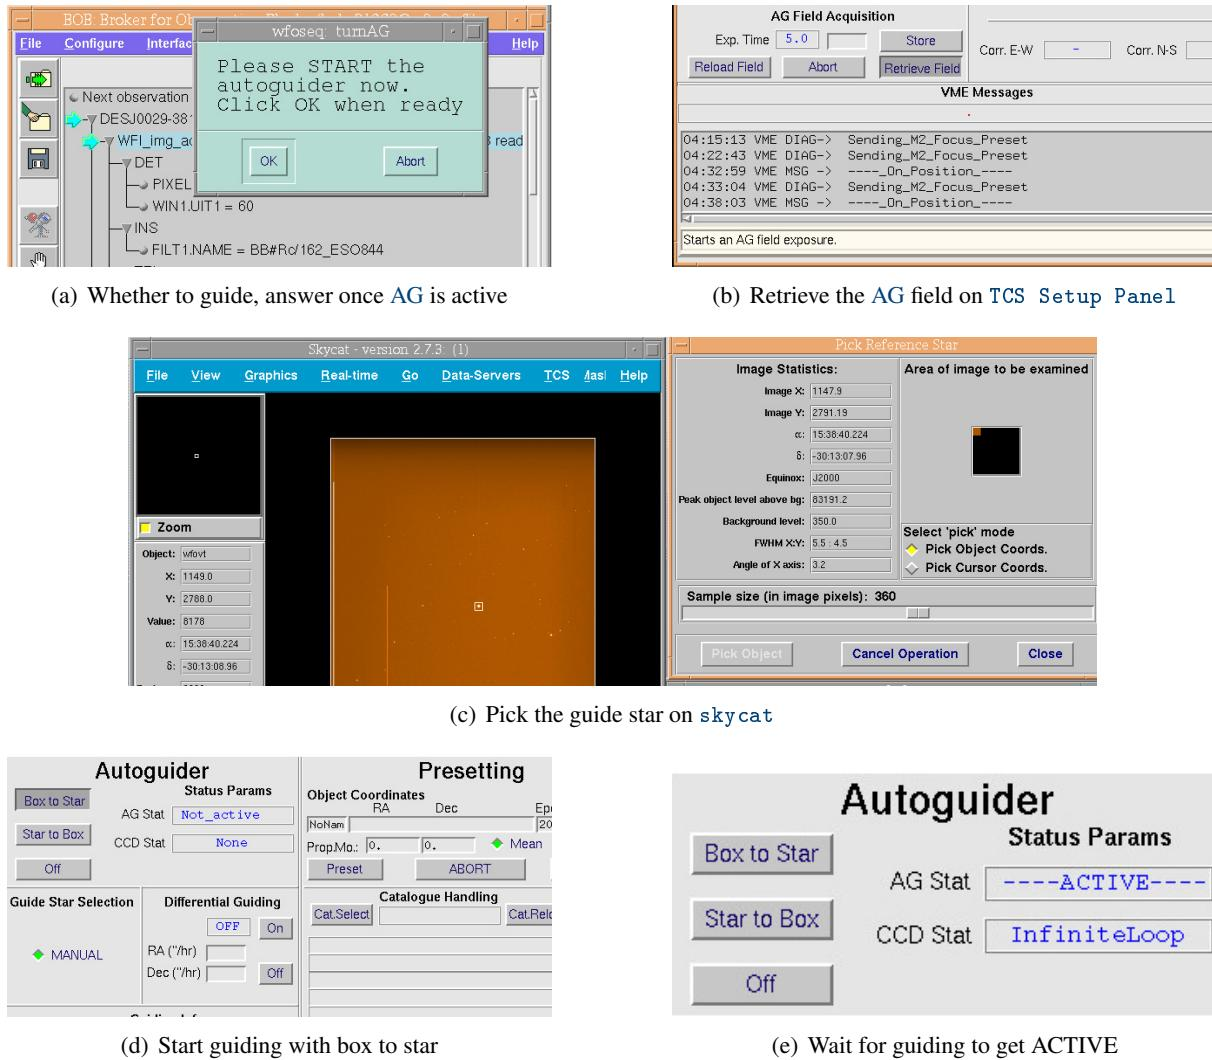

Figure 6.2: Setting the WFI AG for targets outside the solar system
A graphical outline of the procedure is given in Fig. 6.2, p. 58 in the case no differential guiding (for solar
- A. On the **TCS** workstation, acquire the guide field (Fig. 6.2(b), p. 58)
- C. On the autoguider windows (Fig. 11.3, p. 105), choose the guide star (Fig. 6.2(c), p. 58)
- D1. Activate the guiding (Fig. 6.2(d), p. 58)
- D2. Wait for guiding to start (Fig. 6.2(e), p. 58)
- E. Proceed with the observation, typically by clicking on pop-up asking for guiding (Fig. 6.2(a), p. 58)
- E. Proceed with the observation, typically by clicking on pop-up asking for guiding (Fig. 6.2(a), p. 58).